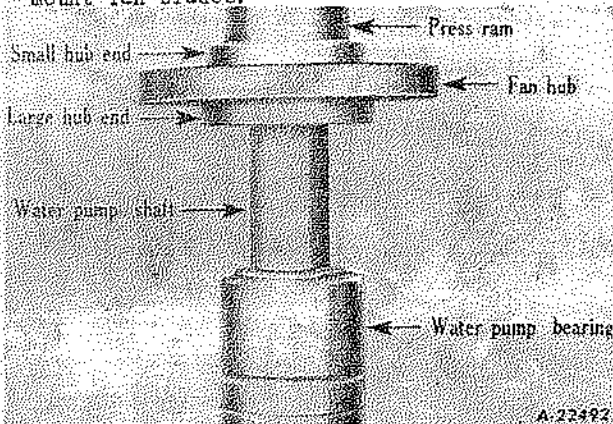

Fig. 30
1. Press fan hub on shaft with the smaller diameter of the hub to the front (Fig. 30).